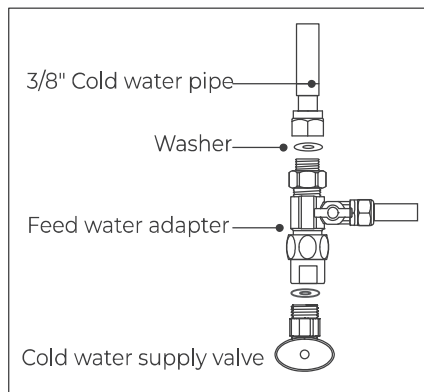

Figure 1
①. Turn off the current cold water supply , which is the source of water to your faucet.
②. Disconnect the current cold water supply line under your sink.
③. Twist the feed water adapter onto the cold water supply valve (with its washer) and tighten it with an adjustable wrench(**Figure 1**).